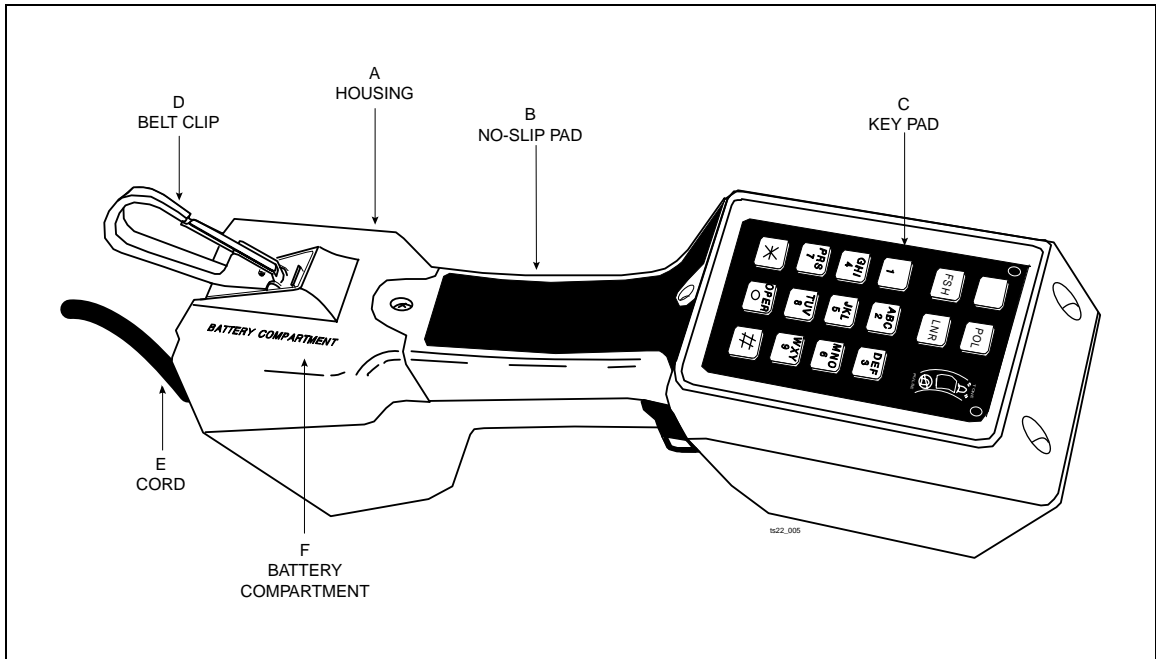

Figure 2. Physical Characteristics
The housing (A) (see Figure 2) is injection molded of high impact polycarbonate which provides excellent insulating properties. The three-piece case is designed to give rugged service and withstand the rough handling and shocks normally associated with craft tools.